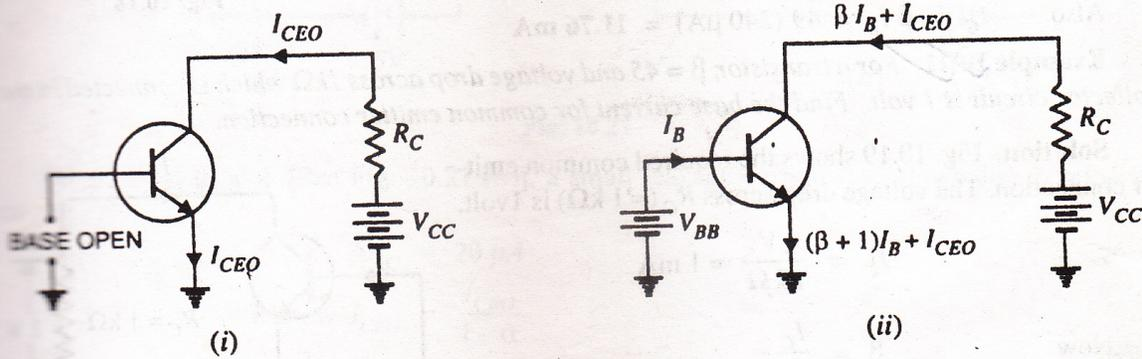

Fig. 10.17
**Concept of  $I_{CEO}$ .** In CE configuration, a small collector current flows even when the base current is zero [See Fig. 10.17 (i)]. This is the collector cut off current (i.e. the collector current that flows when base is open) and is denoted by  $I_{CEO}$ . The value of  $I_{CEO}$  is much larger than  $I_{CBO}$ .
When the base voltage is applied as shown in Fig. 10.17 (ii), then the various currents are :